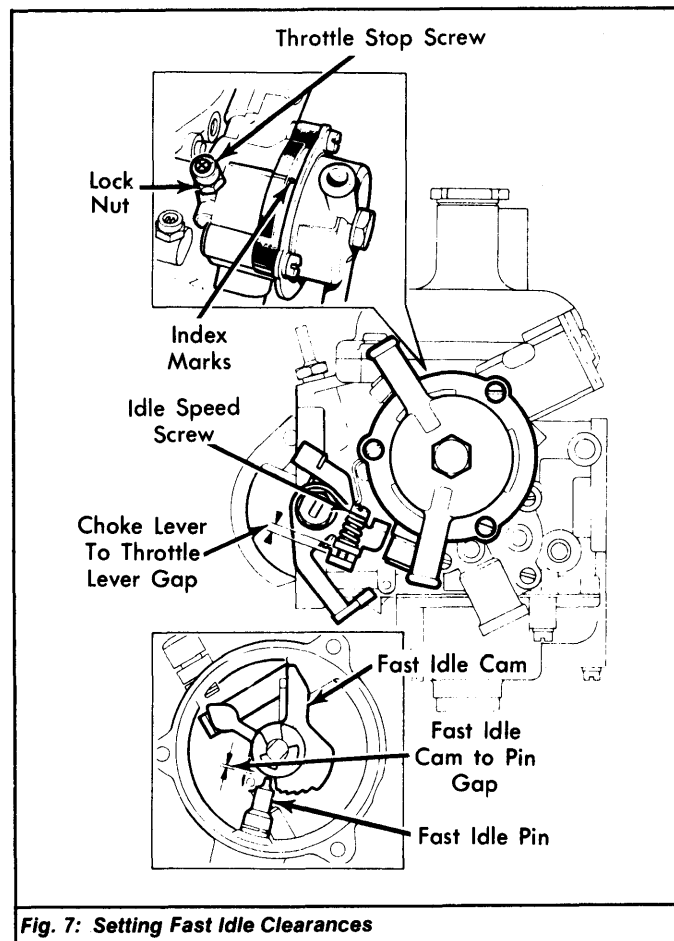

Fig. 7: Setting Fast Idle Clearances
3) Remove wedge from throttle opening. Set gap between choke and throttle levers to proper clearance. See Fig. 7. Adjust throttle stop screw to obtain proper clearance between end of fast idle pin and cam. Lock adjusting screw with lock nut.